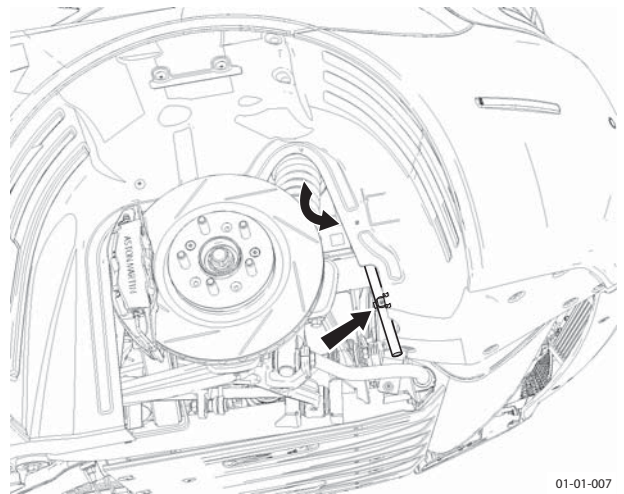

Figure 2
- Release fuel filler aperture drain hose from clips (x2) (see Figure 2).